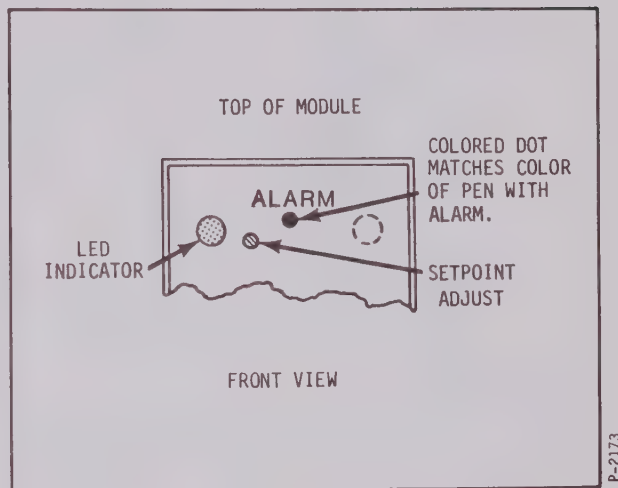

Figure A1-1. Location of Indicator and Adjustment.
b. One light-emitting diode (LED) indicator and one setpoint adjustment (Figure A1-1) are provided for each recording channel having the alarm option, and are located at the top of the Ammeter-Voltmeter module. In the three-pen model, the exact location of this indicator and adjustment depends on the number of recording channels to be alarm-equipped.
d. The alarm setpoint adjustment, also shown in Figure A1-1, allows placing the setpoint anywhere along the active chart span. A colored dot to the right of this adjustment indicates for which recording pen the setpoint adjustment is being made. A separate Alarm Relay Board (mounted internally) contains a relay and set of output terminals for each recording channel having the alarm option. Each set of three terminals consists of one normally closed (NC), one normally open (NO), and one common (COM) terminal. These are connected to the corresponding relay contacts, and are used to control the "on" or "off" condition of external alarm circuitry.